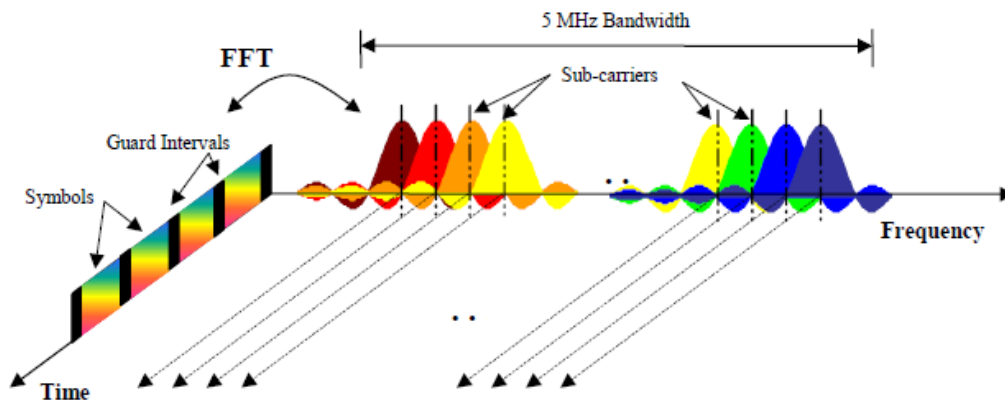

Figure 2-1: Frequency-Time Representation of an OFDM Signal
Figure 2-1 shows a representation of an OFDM signal taken from 3GPP TR 25.892 [2]. In this figure, a signal with 5 MHz bandwidth is shown, but the principle is of course the same for the other EUTRA bandwidths. Data symbols are independently modulated and transmitted over a high number of closely spaced orthogonal subcarriers. In EUTRA, downlink modulation schemes QPSK, 16QAM, and 64QAM are available.
The vector  $s_m$  is defined as the useful OFDM symbol. It is the time superposition of the  $N$  narrowband modulated subcarriers. Therefore, from a parallel stream of  $N$  sources of data, each one independently modulated, a waveform composed of  $N$  orthogonal subcarriers is obtained, with each subcarrier having the shape of a frequency sinc function (see Figure 2-1).
One downlink slot consists of  $N_{symb}^{DL}$  OFDM symbols. To each symbol, a cyclic prefix (CP) is appended as guard time, compare Figure 2-1.  $N_{symb}^{DL}$  depends on the cyclic prefix length. The generic frame structure with normal cyclic prefix length contains  $N_{symb}^{DL} = 7$  symbols. This translates into a cyclic prefix length of  $T_{CP} \approx 5.2 \mu s$  for the first symbol and  $T_{CP} \approx 4.7 \mu s$  for the remaining 6 symbols. Additionally, an extended cyclic prefix is defined in order to cover large cell scenarios with higher delay spread and MBMS transmission. The generic frame structure with extended cyclic prefix of  $T_{CP-E} \approx 16.7 \mu s$  contains  $N_{symb}^{DL} = 6$  OFDM symbols (subcarrier spacing 15 kHz). The generic frame struc-